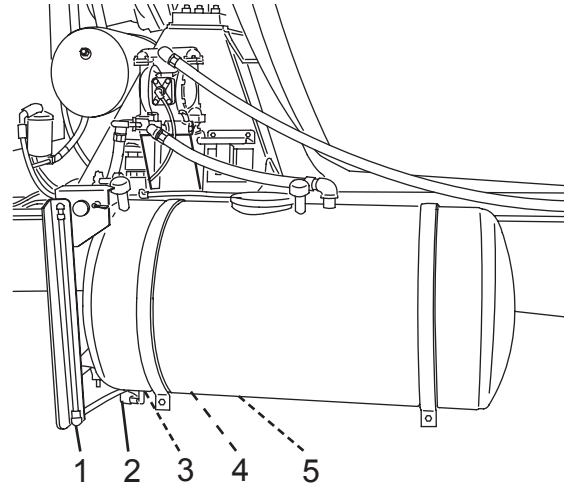

Figure 91
3. Remove the water tank drain plug(s) (Figure 91, Items 3 and 5), or open the drain valve(s) (if equipped).
4. Open the main tank (Figure 91, Item 4) and chemical tank (if equipped) (Figure 91, Item 2) sight glass isolator valves.
5. Open the sight glass drain valve(s) (Figure 91, Item 1).
6. When no more water comes from the tank drain(s), install the water tank drain plug(s) (Figure 91, Items 3 and 5). Tighten the plug(s) until snug.
7. Close the sight glass drain valve(s) (Figure 91, Item 4).